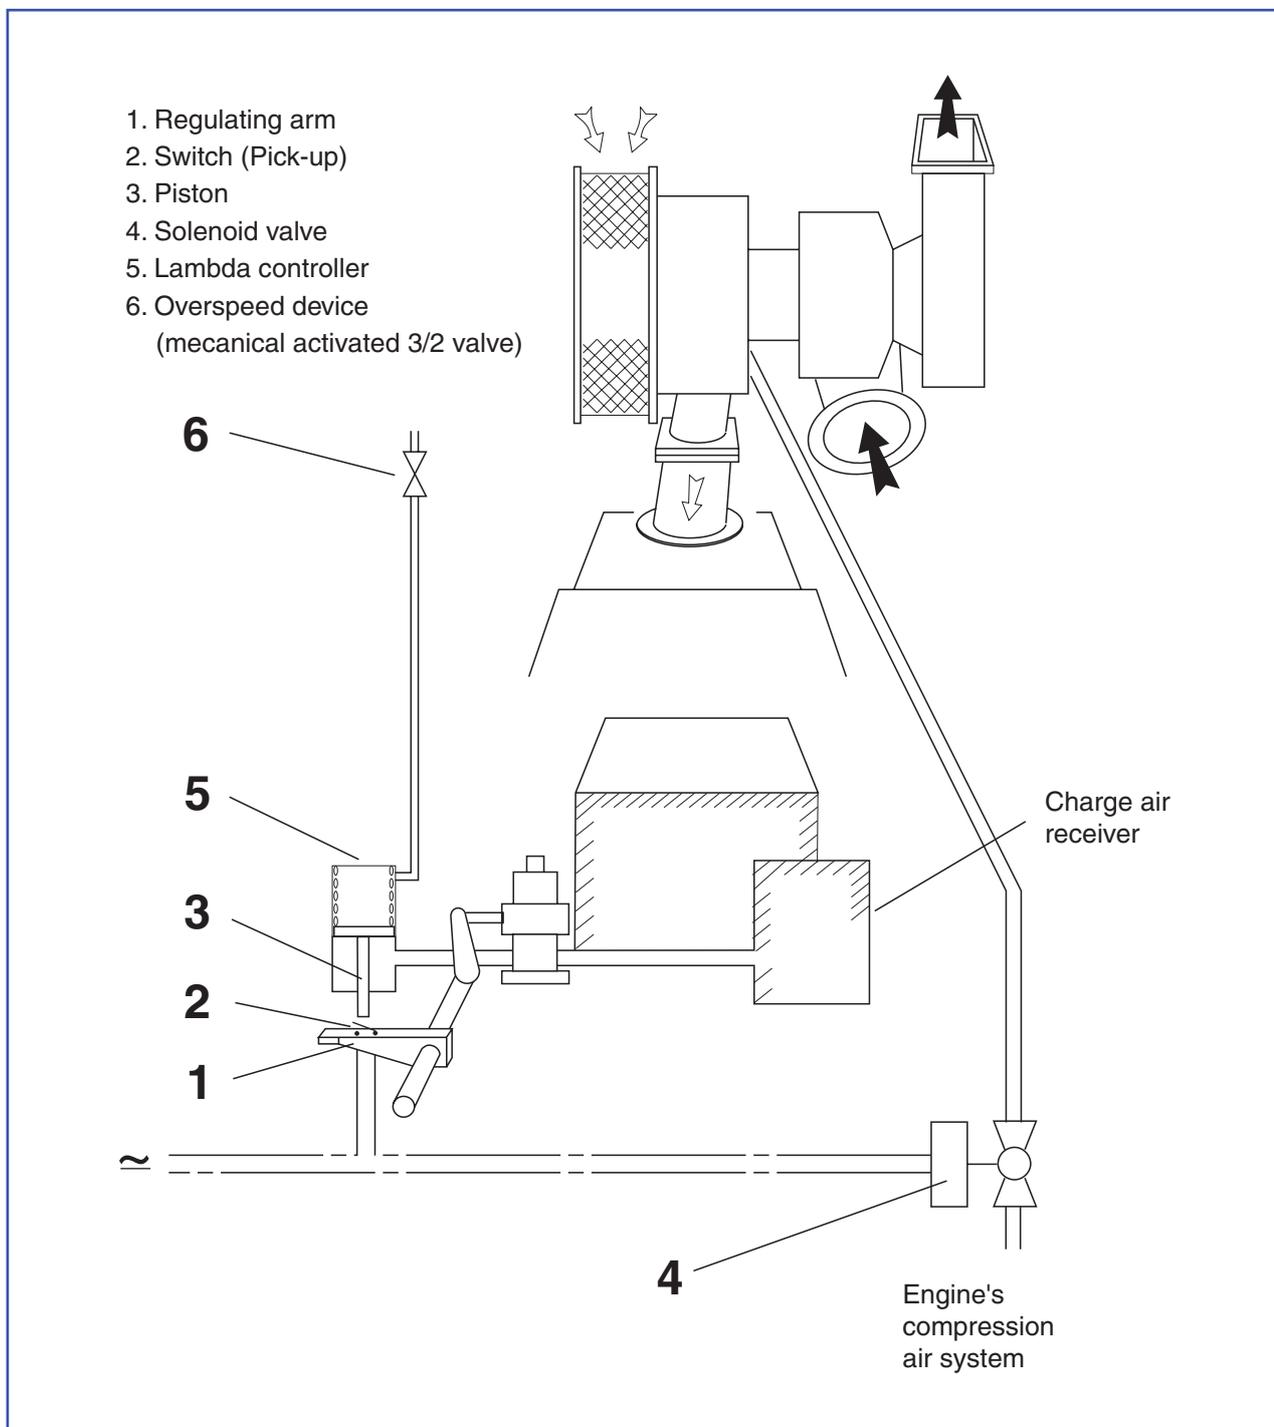

Fig 1 Lambda controller incl. start limitation
Figure 1 illustrates the controller's operation mode. In case of a momentary load increase, the regulating device will increase the index on the injection pumps and hereby the regulator arm (1) is turned, the switch (2) will touch the piston arm (3) and be pushed downwards, whereby the electrical circuit will be closed.